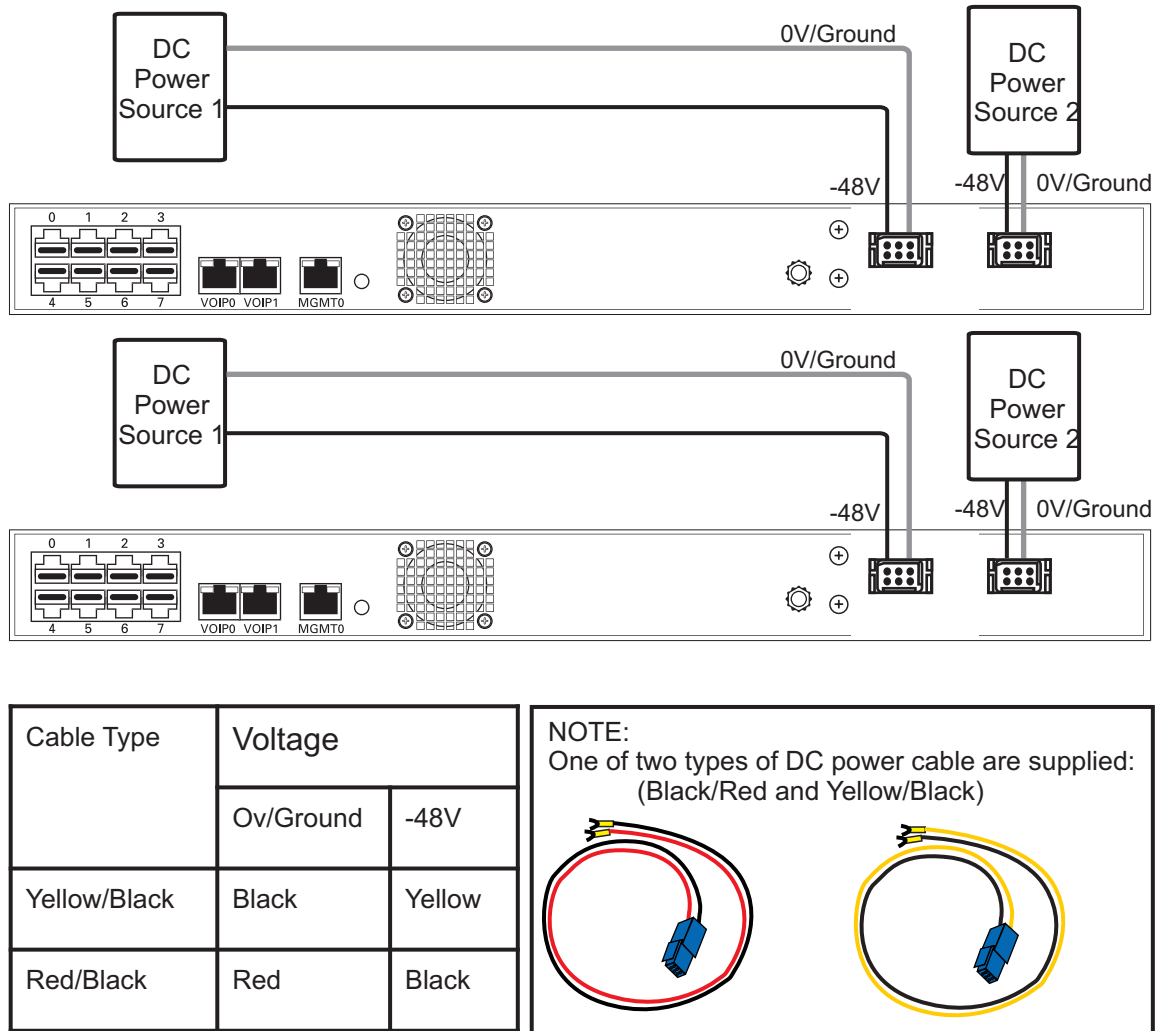

Figure 2.13 800 Series and 800 Series +1 DC Power Connections
1. Connect the first DC power connector of the 800 series and 800 series +1 units to a DC power source one. See figure 2.13 on page 28.